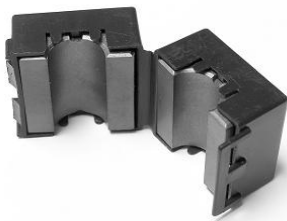

Figure 1. Ferrite clamp (open).
3. Hold the open clamp (Figure 1) at the cable as close to the PS12-1A as possible.